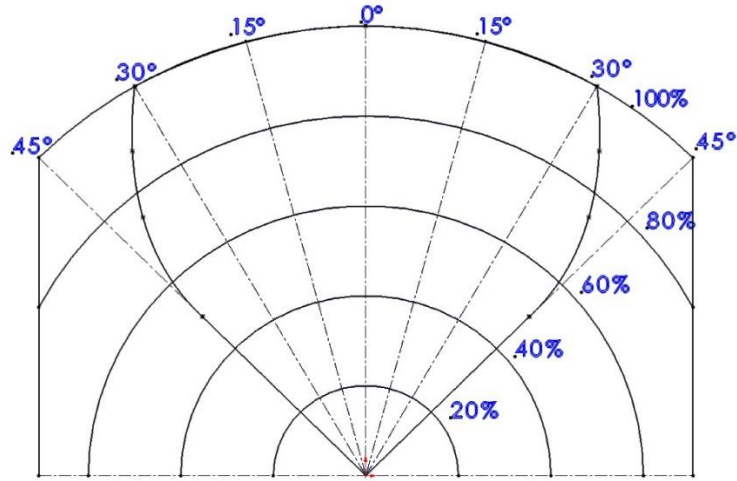
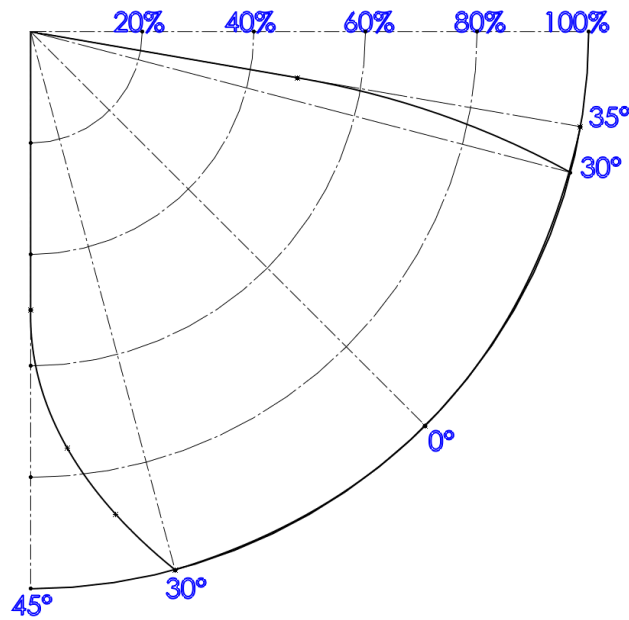

FIGURE 11 - HORIZONTAL FIELD OF VIEW, 90°.
FIGURE 12 - VERTICAL FIELD OF VIEW, 80°.
- ⚠ The field of view of the detectors (See Figure 11 and Figure 12).